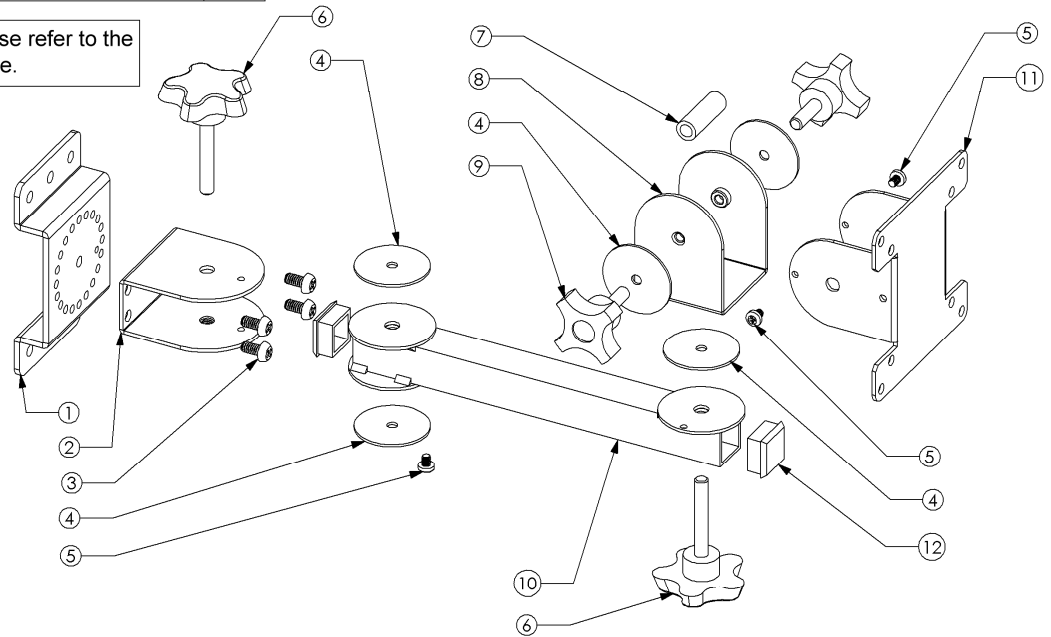

Figure 7 - UVHM-P1-VESA
4. Install the tilt head on the end of the arm (See Figure 7).
1. Lay the anti-slip washer on top of the end of the arm (See Figure 7).